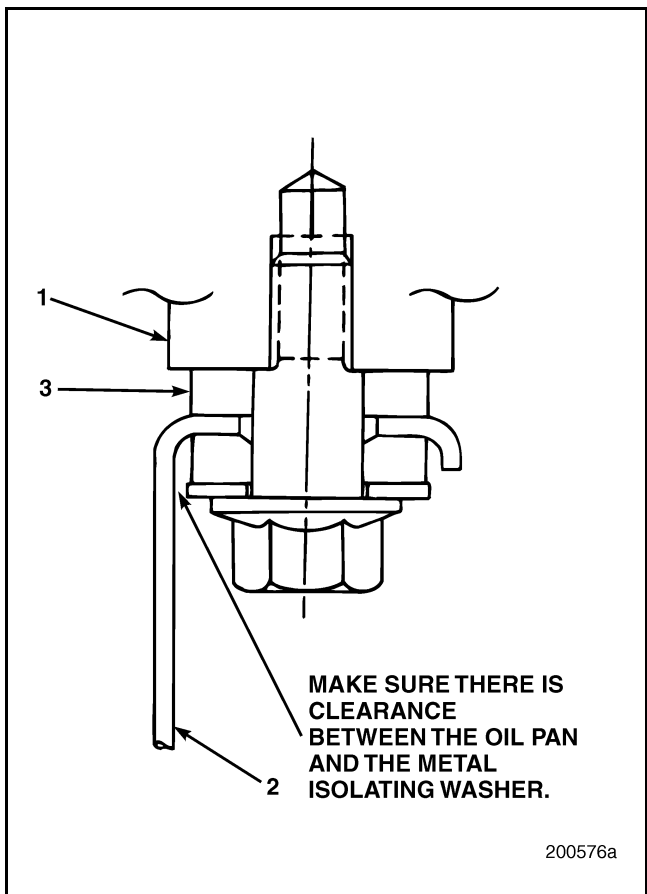

Figure 365 — Checking Clearance
7. When installing the oil pan on the engine, center the pan before tightening the fasteners so that the edges of the metal isolator washers do not touch the pan. Refer to Figure 365.